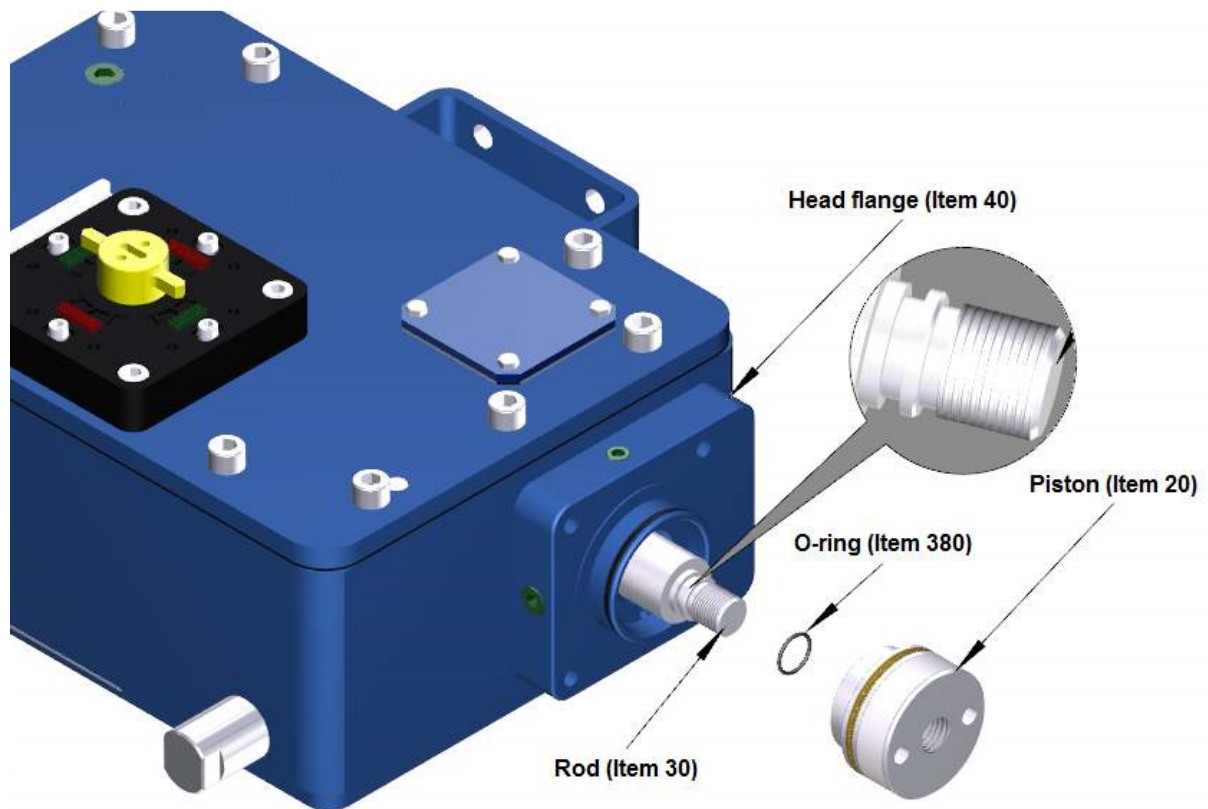

Figure 2
**b) Replacement Piston rod seals : (See Figure 2)**